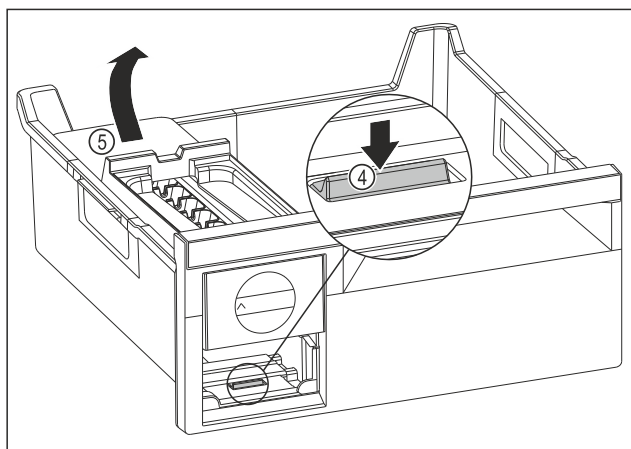

Fig. 165
- Removing the EasyTwist-Ice body: Use your finger to press the tab Fig. 165 (4) downward while at the same time lifting the EasyTwist-Ice body Fig. 165 (5) from behind with the other hand.